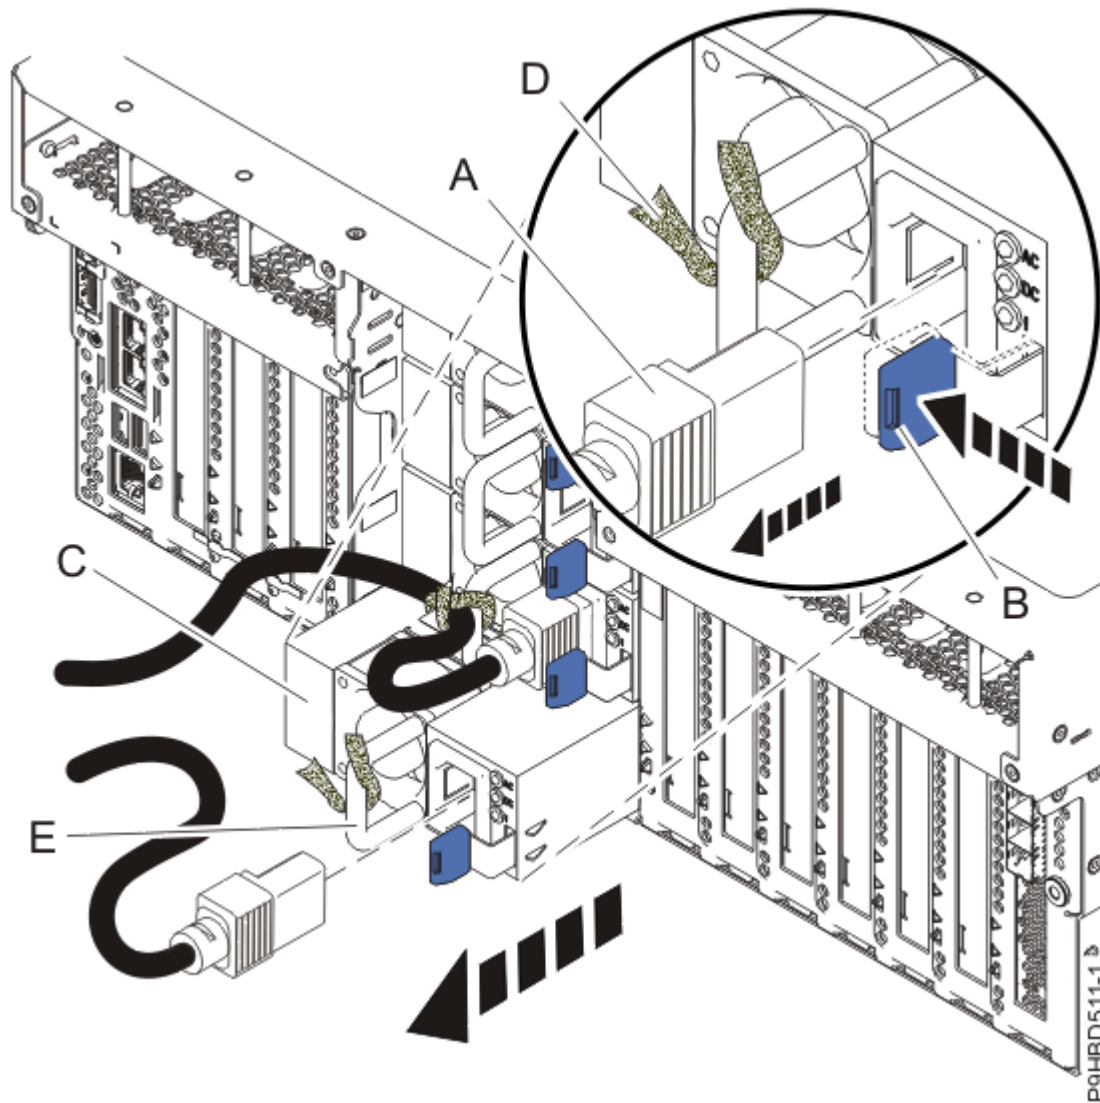

Figure 8. Removing a power supply
2. To remove the power supply when the system is powered on, label the power cord, and then unstrap the hook-and-loop fastener **(D)** to release the power cord **(A)** from the power supply handle. See Figure 8 on page 11. Do not remove the power cord from the cable-management arm.
See Figure 8 on page 11.